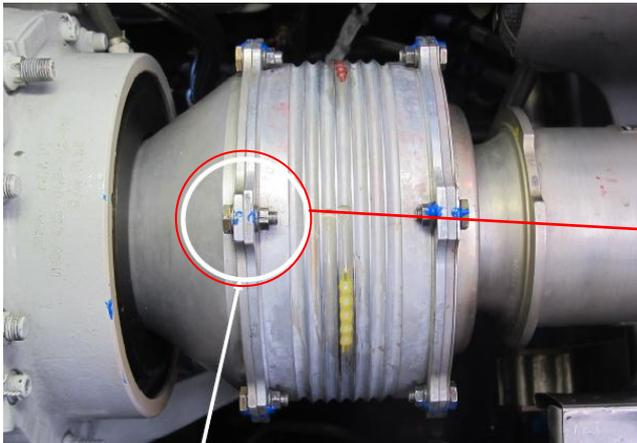
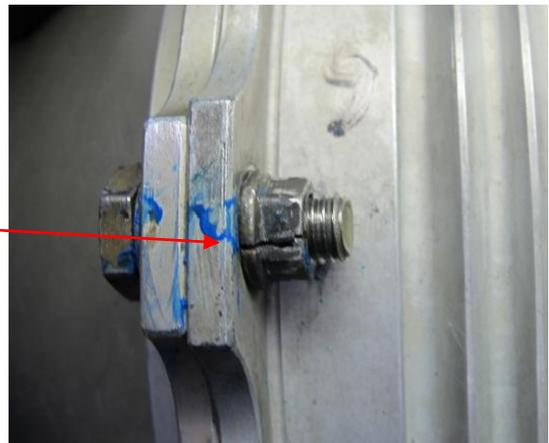

Fig. 3
Fig. 4
Required Action(s) and Compliance Time(s):	<p>Required as indicated, unless accomplished previously:</p> <ol style="list-style-type: none"> <li>(1) Within 10 flight hours (FH) after the effective date of this AD, and, thereafter, at intervals not to exceed 25 FH, inspect each nut P/N MS21042L5 or P/N MS21042L4, as applicable depending on helicopter model and/or s/n, in accordance with the instructions of Appendix 1 of this AD.</li> <li>(2) If, during any inspection as required by paragraph (1) of this AD, a nut is found cracked, before next flight, replace the nut with a serviceable part having a different P/N in accordance with the instructions of Appendix 2 of this AD.</li> </ol> <p>Note: For a typical crack, refer to Appendix 1 of this AD, Fig. 3 and Fig. 4.</p> <ol style="list-style-type: none"> <li>(3) Unless each nut P/N MS21042L4 or P/N MS21042L5 was replaced with a serviceable nut as required by paragraph (2) of this AD, within 3 months after the effective date of this AD, replace each nut P/N MS21042L4 or P/N MS21042L5 with a serviceable nut having a different P/N in accordance with the instructions of Appendix 2 of this AD.</li> <li>(4) Replacement of each affected nut on a helicopter as required by paragraph (2) or (3) of this AD, as applicable, constitutes terminating action for the repetitive inspections required by paragraph (1) of this AD for that helicopter.</li> <li>(5) From the effective date of this AD, do not install a nut having P/N MS21042L5 or P/N MS21042L4 on the engine-to-transmission drive shaft line on any helicopter.</li> </ol>